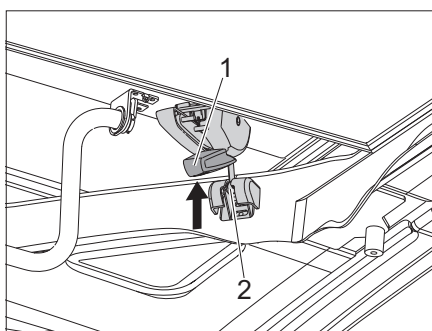

Fig. 52 Tensioning the locking mechanism
- ▷ Before starting your journey, check whether the locking hooks of the locks (Fig. 52,1) on the left and right are correctly tensioned. If necessary, adjust the lock according to the instructions from the manufacturer SCA.
- Push the pin (Fig. 52,2) into the holder.
- Push up the locks (Fig. 52,1) on the left and right.
- Check that there is no play in the pin (Fig. 52,2).